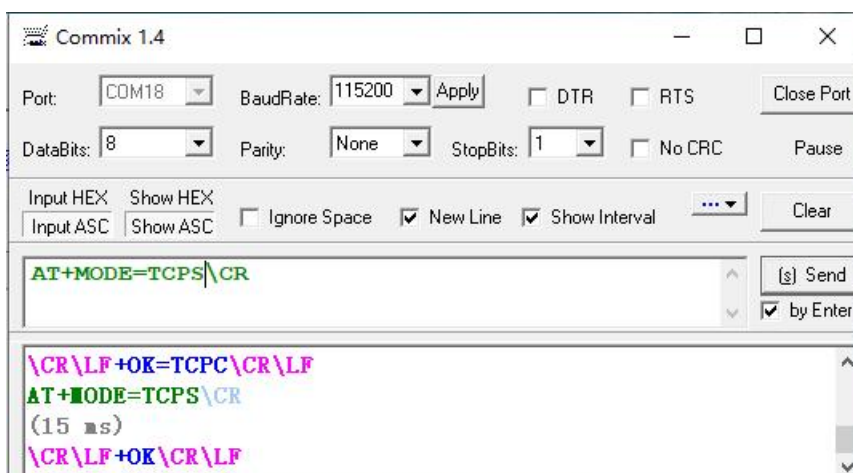

Figure 6-17 AT Command for Setting TCP Server Mode
1) Set the module to TCP Server mode with the target port set to 60000. Both AT commands and web pages are available. Take AT command setting as an example, as shown in Figure 6-17. For specific AT command mode entry operation, please refer to. AT Instruction Set Section.
2) As shown in Figure 6-17, the receipt of "+ OK" indicates that the module has finished setting the TCP Server mode. Then exit the at finger Command mode, the program automatically returns to passthrough mode.